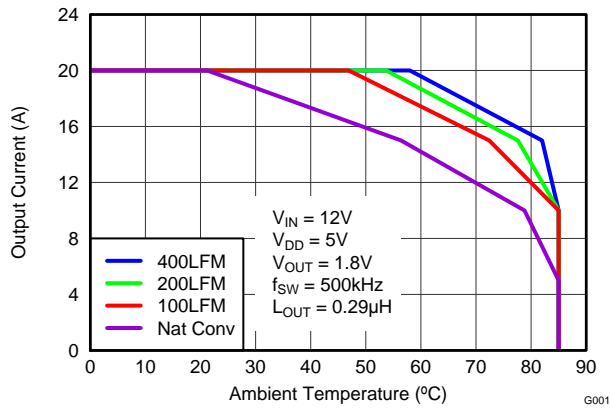
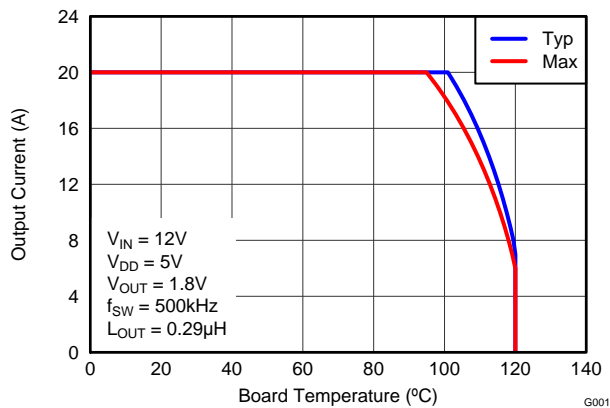

Figure 5. Safe Operating Area – PCB Horizontal Mount (1)
Figure 7. Typical Safe Operating Area (1)
The SOA curves in the CSD97376Q4M datasheet give engineers guidance on the temperature boundaries within an operating system by incorporating the thermal resistance and system power loss. Figure 5 and Figure 7 outline the temperature and airflow conditions required for a given load current. The area under the curve dictates the safe operating area. All the curves are based on measurements made on a PCB design with dimensions of 4.0" (W) x 3.5" (L) x 0.062" (T) and 6 copper layers of 1 oz. copper thickness.